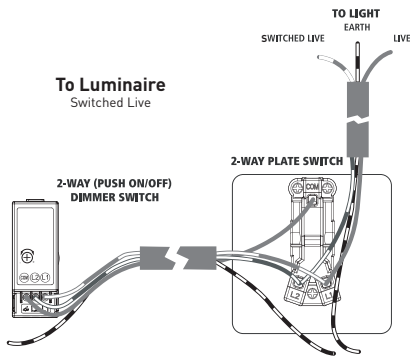

Fig 2
- Please see Fig 1 and Fig 2 for wiring methods